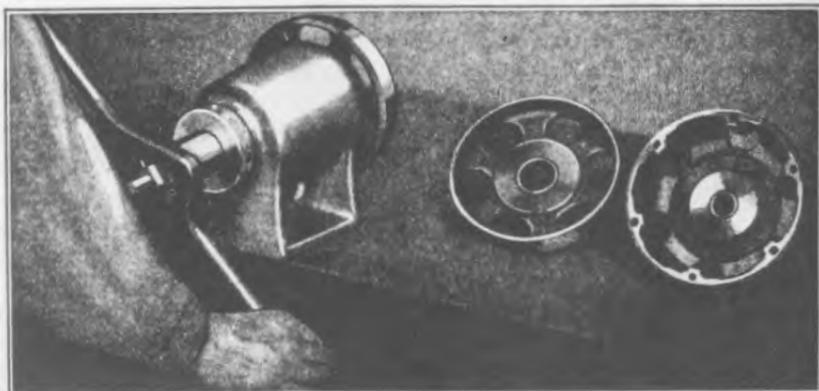

Fig. 199
- 295 Place brake drum on gear shaft and check the clearance between shaft and bushings with a thickness gauge as shown at "H" Fig. 196. If there is more than .005" clearance between bushings and shaft, new bushings should be installed and reamed. The old bushings are pressed out of the drums and new bushings pressed in with a bushing driver on an arbor press as shown in Fig. 198. To prevent bending or cracking web in drums when removing and installing bushings, place drums on a drum support so that the pressure will be directed on the support rather than on edge of drums. It is important that the new bushings be accurately reamed; this can be done by placing drums in an alignment fixture when reaming the bushings (See Fig. 199).